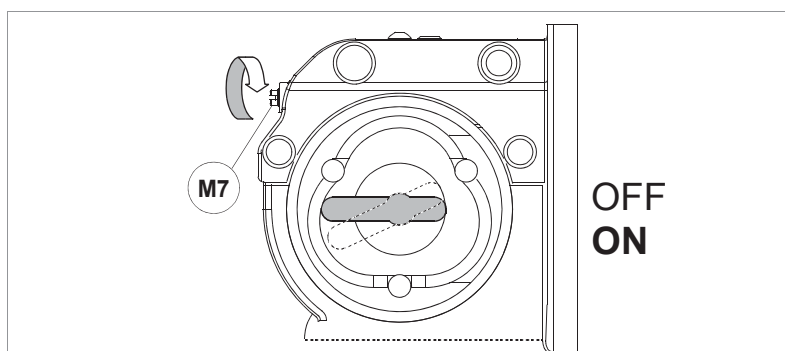

Fig. 146
- 8) Use a screwdriver to turn the screw (M7) clockwise (fig. 146), the state changes to ON, tighten the grub screw (M6).